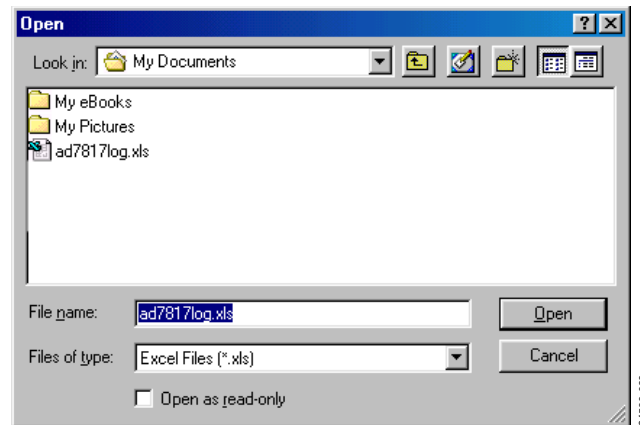

Figure 7. Opening a Data Log File
1. Type the update interval (in seconds) in the **Delay (Sec)** box and click **Make New Log**. The **Open** dialog box is displayed (Figure 7).